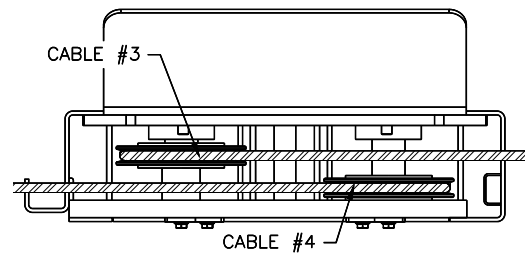

Fig 11 – Power Runway (Front View)
- 16) At the front of the power runway continue routing cable #3 around the sheave and out the front drivers side cross beam. Cable #4 should be routed around the sheave & out to the passenger side front cross beam, **Fig 11**. **Ensure that cables 3 and 4 are not crossed inside the front cross beam.**